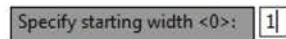

Fig. 2.5 Enter 1 as the desired width of the polyline and *right-click*
- The prompt shown in Fig. 2.5 appears. Enter 1 in the **Width** box and *right-click*.